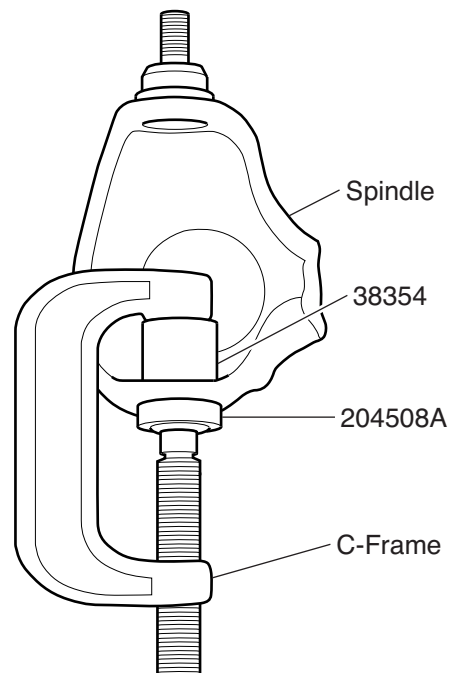

Figure 2. Ball Joint Installation
3. Position 204508A and 38354 on the ball joint as shown in Figure 2.